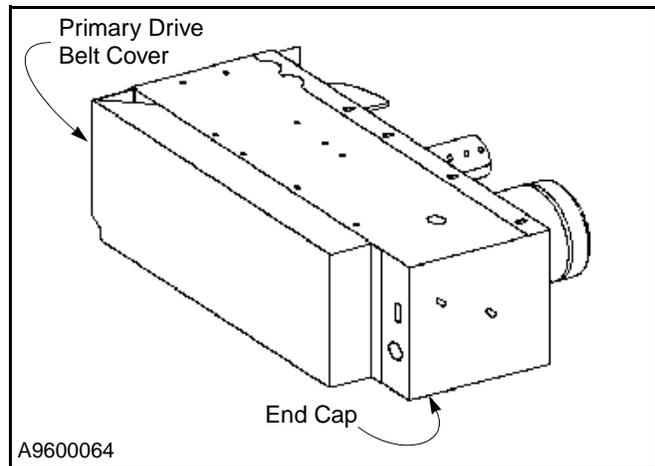

Figure 18
- Remove the end cap and the primary drive cover from the console drive assembly. (See Figure 18.)